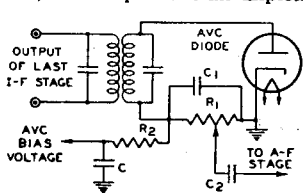
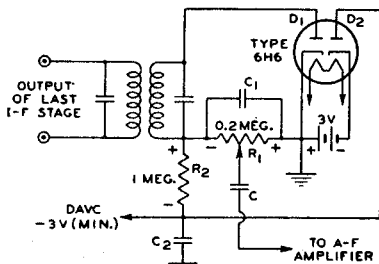
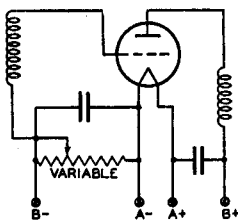
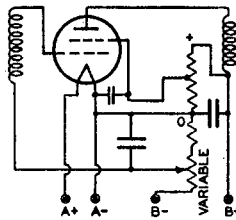

Fig. 41
Fig. 42
Fig. 55
Fig. 57
The avc circuit reduces the r-f and i-f gain for a strong signal usually by increasing the negative bias of the r-f, i-f, and frequency-mixer stages when the signal increases. A simple avc circuit is shown in Fig. 41. On each positive half-cycle of the signal voltage, when the diode plate is positive with respect to the cathode, the diode passes current. Because of the flow of diode current through R_1 , there is a voltage drop across R_1 , which makes the left end of R_1 negative with respect to ground. This voltage drop across R_1 is applied, through the filter R_2 and C , as negative bias on the grids of the preceding stages. Then, when the signal strength at the antenna increases, the signal applied to the avc diode increases, the voltage drop across R_1 increases, the negative bias voltage applied to the r-f and i-f stages increases, and the gain of the r-f and i-f stages is decreased. Thus the increase in signal strength at the antenna does not produce as much increase in the output of the last i-f stage as it would produce without avc. When the signal strength at the antenna decreases from a previous steady value, the avc circuit acts, of course, in the reverse direction, applying less negative bias, permitting the r-f and i-f gain to increase, and thus reducing the decrease in the signal output of the last i-f stage. In this way, when the signal strength at the antenna changes, the avc circuit acts to prevent change in the output of the last i-f stage, and thus acts to prevent change in loudspeaker volume.
In the circuit shown in Fig. 41, a certain amount of avc negative bias is applied to the preceding stages on a weak signal. Since it may be desirable to maintain the receiver's r-f and i-f gain at the maximum possible value for a weak signal, avc circuits are designed in some cases to apply no avc bias until the signal strength exceeds a certain value. These avc circuits are known as delayed avc, or, d-avc circuits. A d-avc circuit is shown in Fig. 42. In this circuit, the diode section D_1 of the 6H6 acts as detector and avc diode. R_1 is the diode load resistor and R_2 and C_2 are the avc filter. Because the cathode of diode D_2 is returned through a fixed supply of -3 volts to the cathode of D_1 , a d-c current flows through R_1 and R_2 in series with D_2 . The voltage drop caused by this current places the avc lead at approximately -3 volts (less the negligible drop through D_2). When the average amplitude of the rectified signal developed across R_1 does not exceed 3 volts, the avc lead remains at -3 volts. Hence, for signals not strong enough to develop 3 volts across R_1 , the bias applied to the controlled tubes stays constant at a value giving high sensitivity. However, when the average amplitude of rectified signal voltage across R_1 exceeds 3 volts, the plate of diode D_2 becomes more negative than the cathode of D_2 and current flow in diode D_2 ceases. The potential of the avc lead is then controlled by the voltage developed across R_1 . Therefore, with further increase in signal strength, the avc circuit applies an increasing avc bias voltage to the controlled stages. In this way, the circuit regulates the receiver's gain for strong signals, but permits the gain to stay constant at a maximum value for weak signals.
It can be seen in Fig. 42 that a portion of the -3 volts delay voltage is applied to the plate of the detector diode D_1 , this portion being approximately equal to $R_1/(R_1 + R_2)$ times -3 volts. Hence, with the circuit constants as shown, the detector plate is made negative with respect to its cathode by approximately one-half volt. However, this voltage does not interfere with detection because it is not large enough to prevent current flow in the tube.
Grid-bias variation for the r-f and i-f amplifier stages is a convenient and frequently used method for controlling receiver volume. The variable voltage supplied to the grid may be obtained: (1) from a variable cathode resistor as shown in Figs. 55 and 56; (2) from a bleeder circuit by means of a potentiometer as shown in Fig. 57 or (3) from a bleeder circuit in which the bleeder current is varied by a tube used for automatic volume control. The latter circuit is shown in Fig. 41. In all cases it is important that the control be arranged so that at no time will the bias be less than the recommended grid-bias voltage for the particular tubes used. This requirement can be met by providing a fixed stop on the potentiometer, by connecting a fixed resistance in series with the variable resistance, or by connecting a fixed cathode resistance in series with the variable resistance used for regulation.